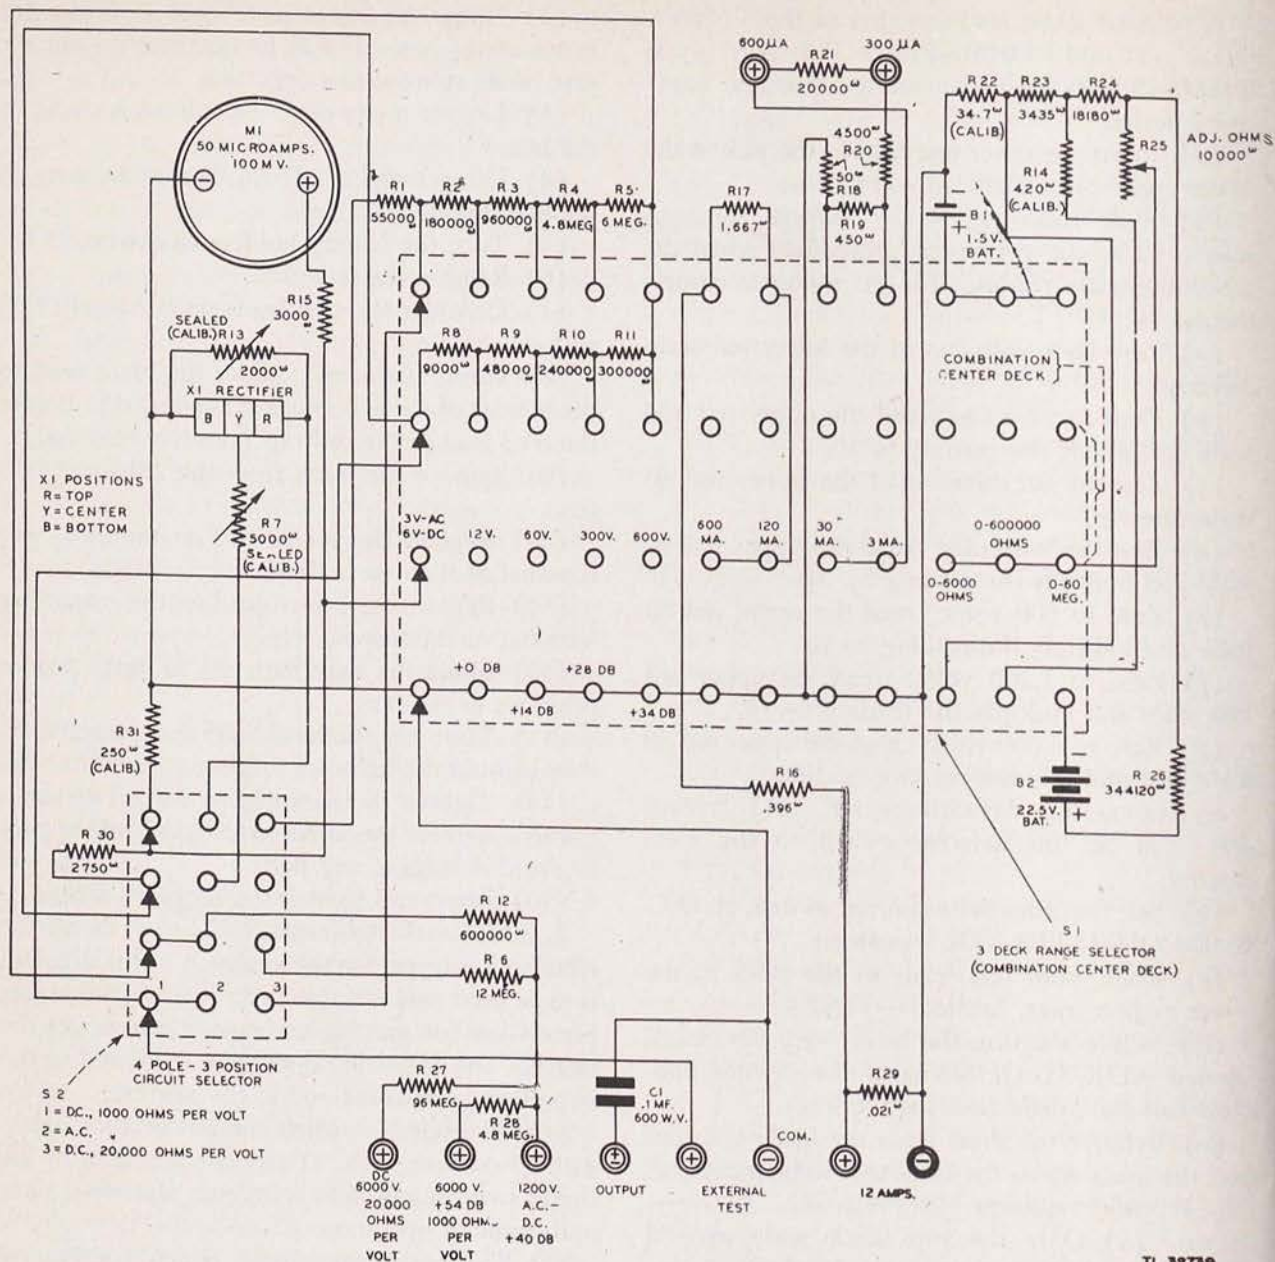

Figure 5. Precision analyzer, series 856, schematic.
(7) Unsolder the two leads on the small 11½-volt cell.
(8) Using a new cell, solder the black lead to the bottom of the cell (negative terminal). Solder the red lead to the cell cap (positive terminal).
(9) Remove the leads from the 22½-volt battery.
(10) Replace the green lead on the 22½-volt terminal of the new battery.
(11) Replace the brown lead on the remaining terminal of the new battery.
(12) Insert the new batteries in their proper positions in the case.
(13) Turn the battery holders counterclockwise to hold the batteries in place.
(14) Tighten the nuts with a socket wrench.
(15) Replace the meter in the case, taking care to avoid damaging any parts.
(16) Insert and tighten the six panel screws.
k. SCHEMATIC ANALYSIS. Figure 5 shows the schematic diagram for the analyzer. This diagram is to be used only when the officer in charge grants permission for making emergency repairs on the meter. The following discussion is limited to the important parts contained in the analyzer.
(1) The selector switch consists of four gangs with 12 contacts each. These contacts control the circuit switching used in voltmeter, ohmmeter, and milliammeter operation.
(2) The sensitivity-control switch consists of three gangs with four contacts each. The right-hand position of the switch allows the meter to be used at a sensitivity of 20,000 ohms-per-volt. In this case, the only circuits used are the current-limiting resistors for voltmeter operation which are R1, R2, R3, R5, R6, R8, R9, R10, R11, R12, R27, and R28. The center position of the sensitivity-control switch inserts a rectifier in series with the meter to change alternating current into pulsating direct current which can be measured by the meter. The right-hand position of the switch sets a shunt across the meter to lower the sensitivity to 1,000 ohms-per-volt.
(3) The ohmmeter circuit is of the conventional type with a 22½-volt battery and a single